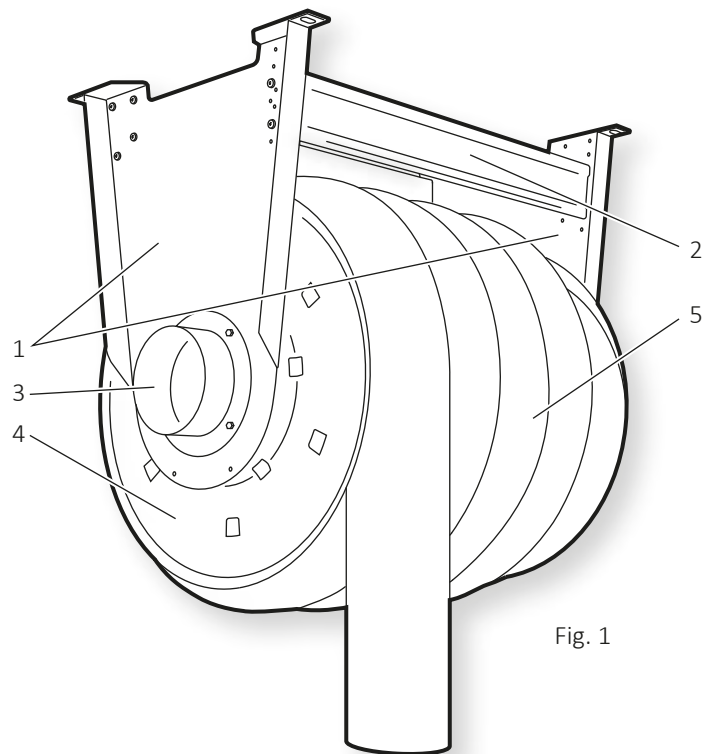

Fig. 1
Exhaust hose reel ASEM, see Fig. 1.
ASEM consists of brackets (1), cross members (2), duct connection (3), retractor reel device (4), hose (5) and motor (6) with manual knob (7). See Fig. 1 & 2.